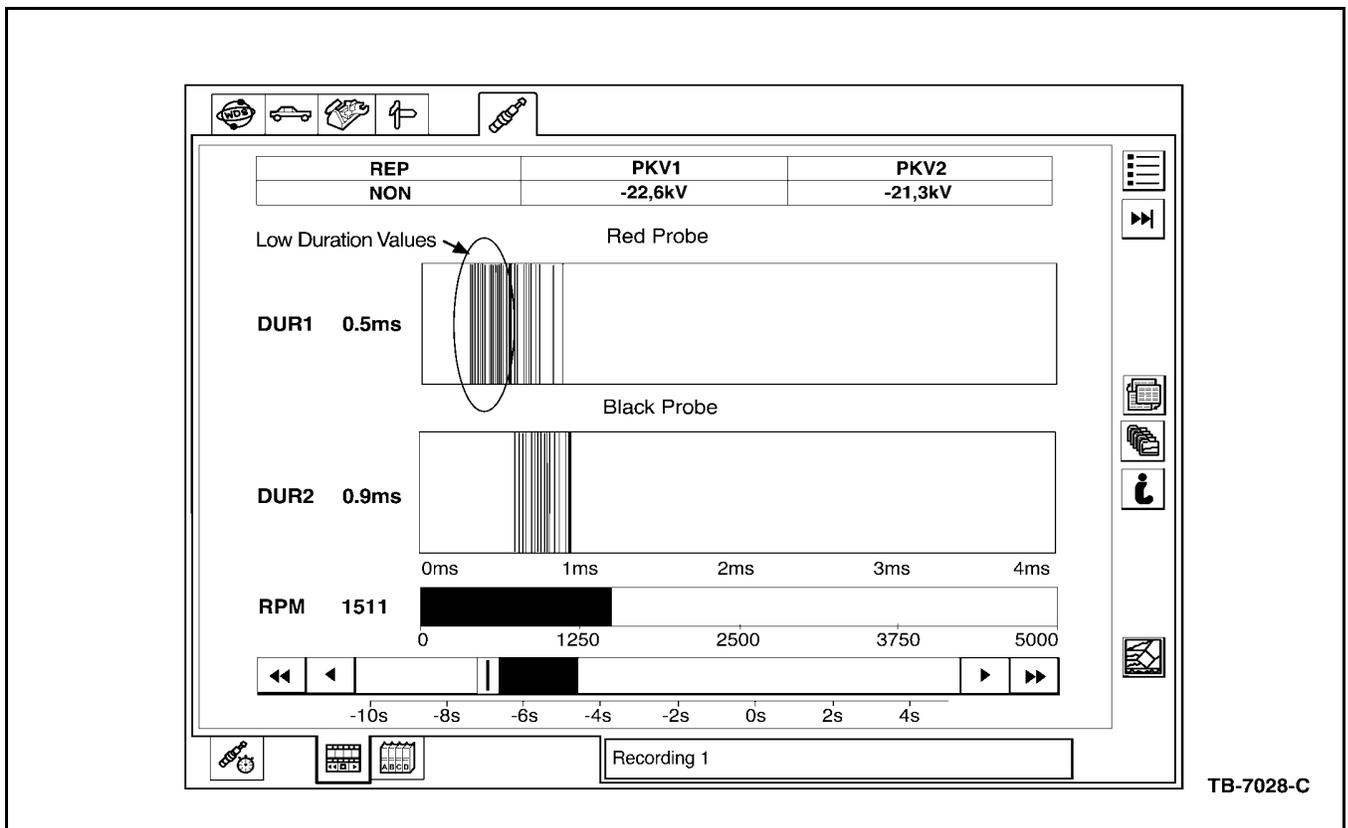
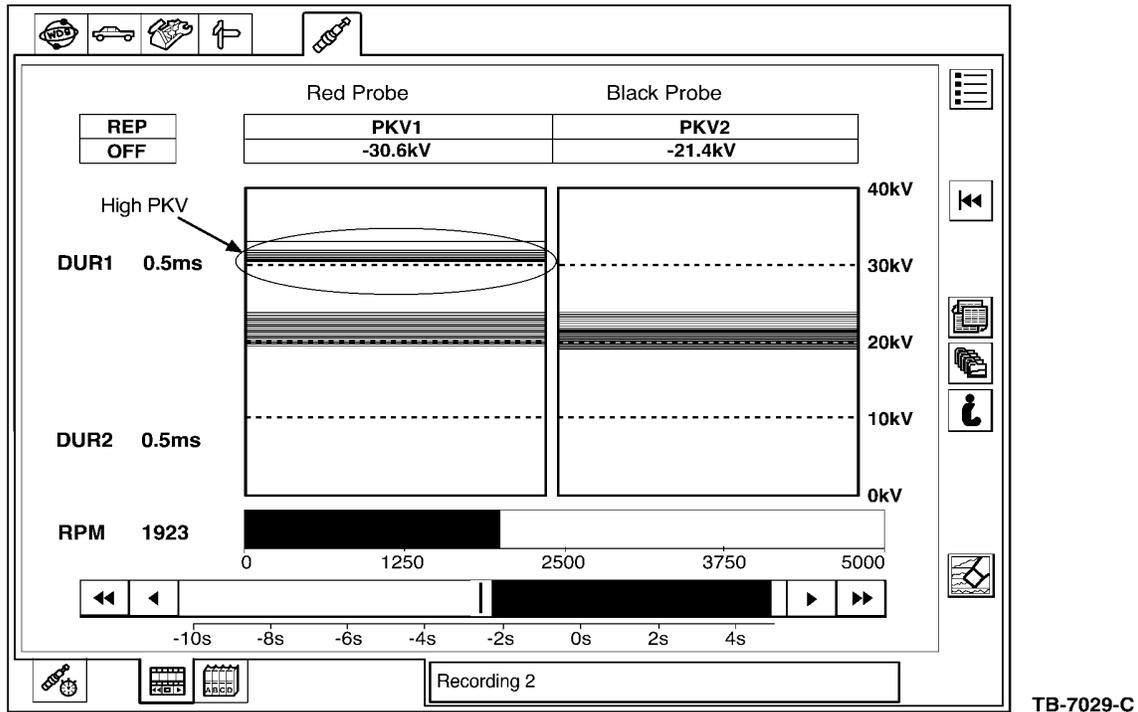

Figure 5 - Article 05-22-8
Figure 6 - Article 05-22-8
Run Ignition System Test on WDS to determine if there is an ignition problem. Look at both duration (DUR) and kilovolts (KV) and look for values that standout from the rest as shown in Figure 5 and Figure 6.